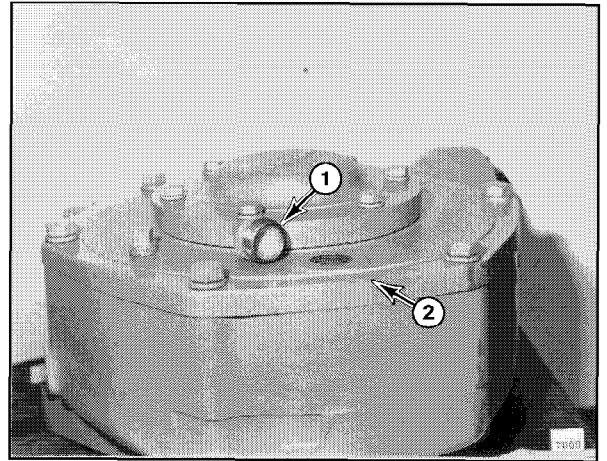

Figure 5
5. Remove fill plug (1, Figure 5) on top of gear case (2).